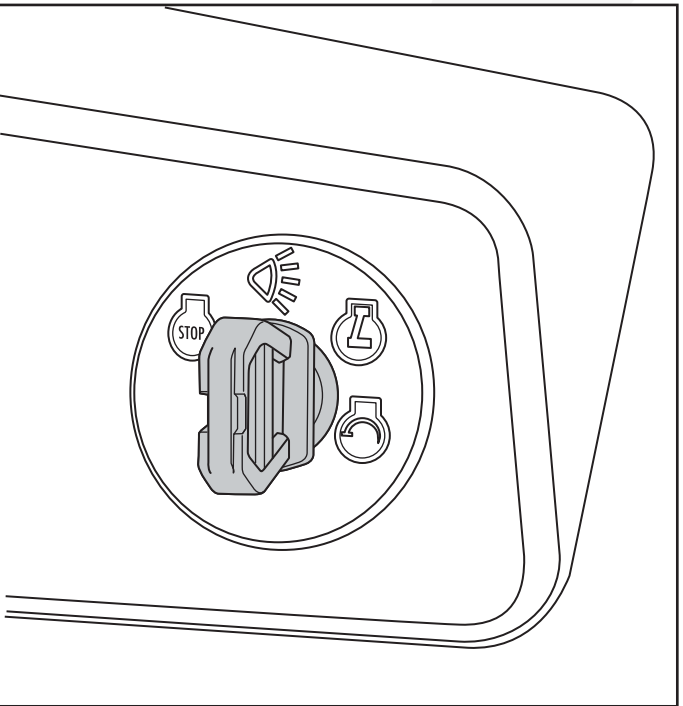

Fig. 17
1. To turn on the headlights, turn the key from the RUN position to the HEADLIGHT position. (Fig. 17)